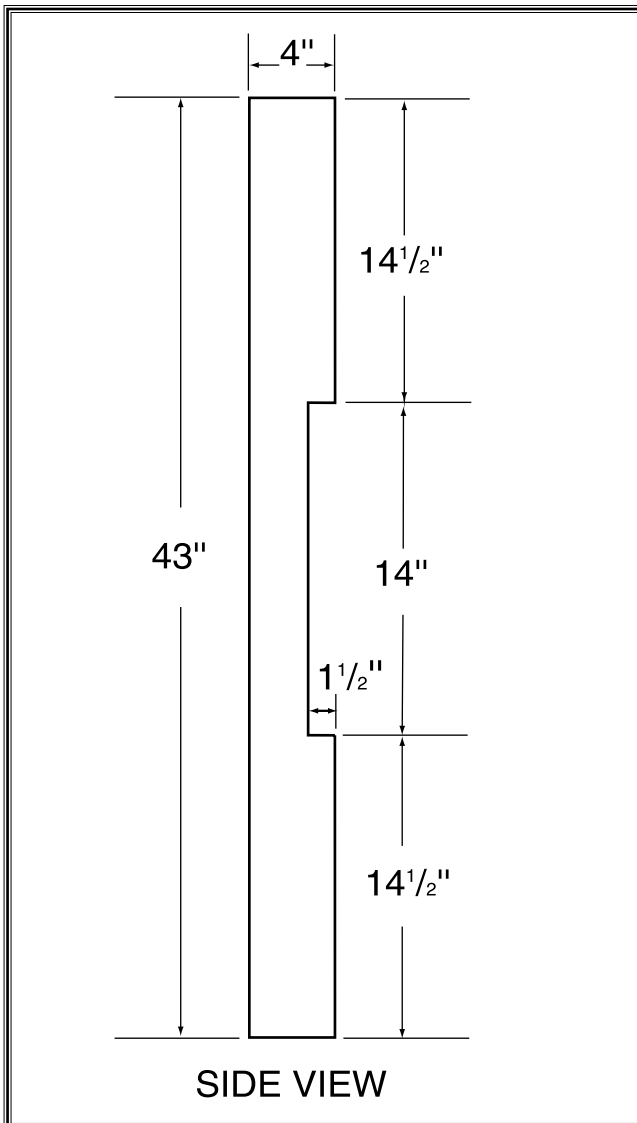

Figure 33. Dimensions of coplanarity gauge.
1. The body of the bandsaw does not allow you to place a regular straightedge across both wheels at the same time. We’ve found a simple way to overcome this situation. All you need is a 43” x 2” x 4” board and a saw. After you are certain that the board is straight (this can easily be checked with a 4’ level), simply cut a 1 1/2” notch out of the center. Refer to **Figure 33** for more details on how to make this gauge.